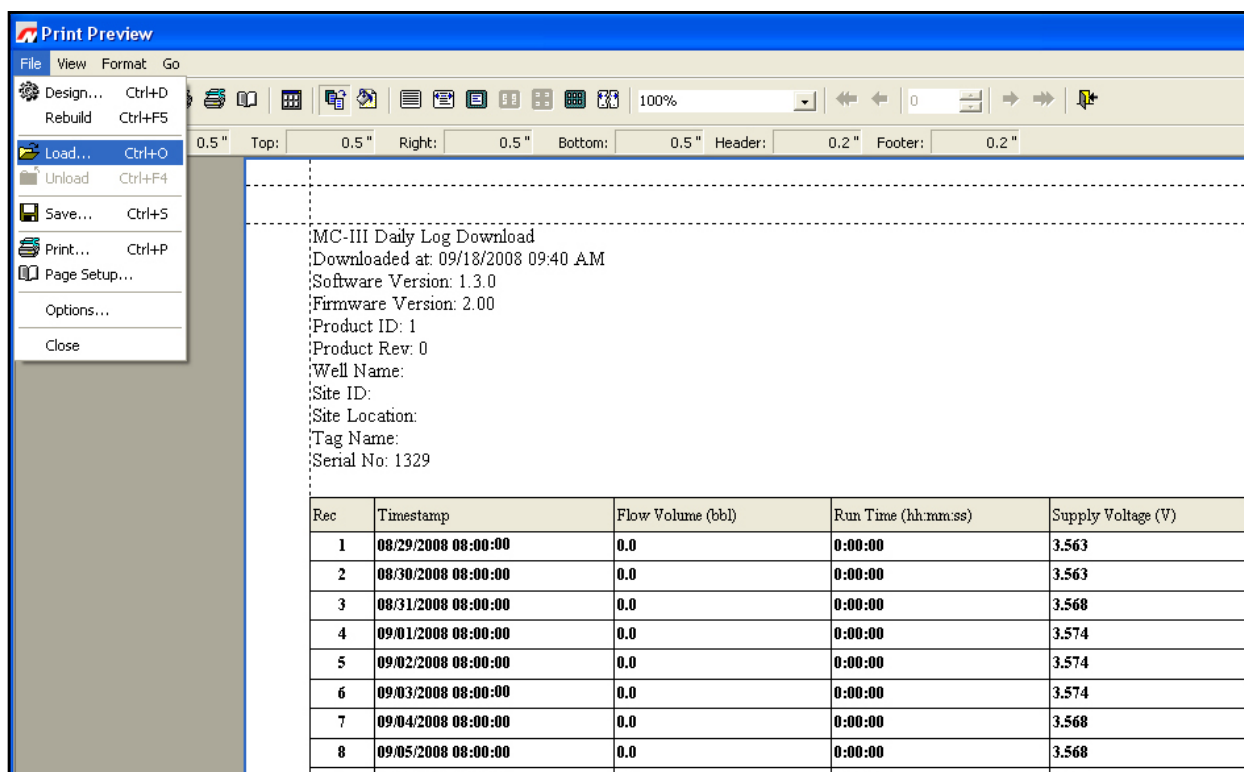
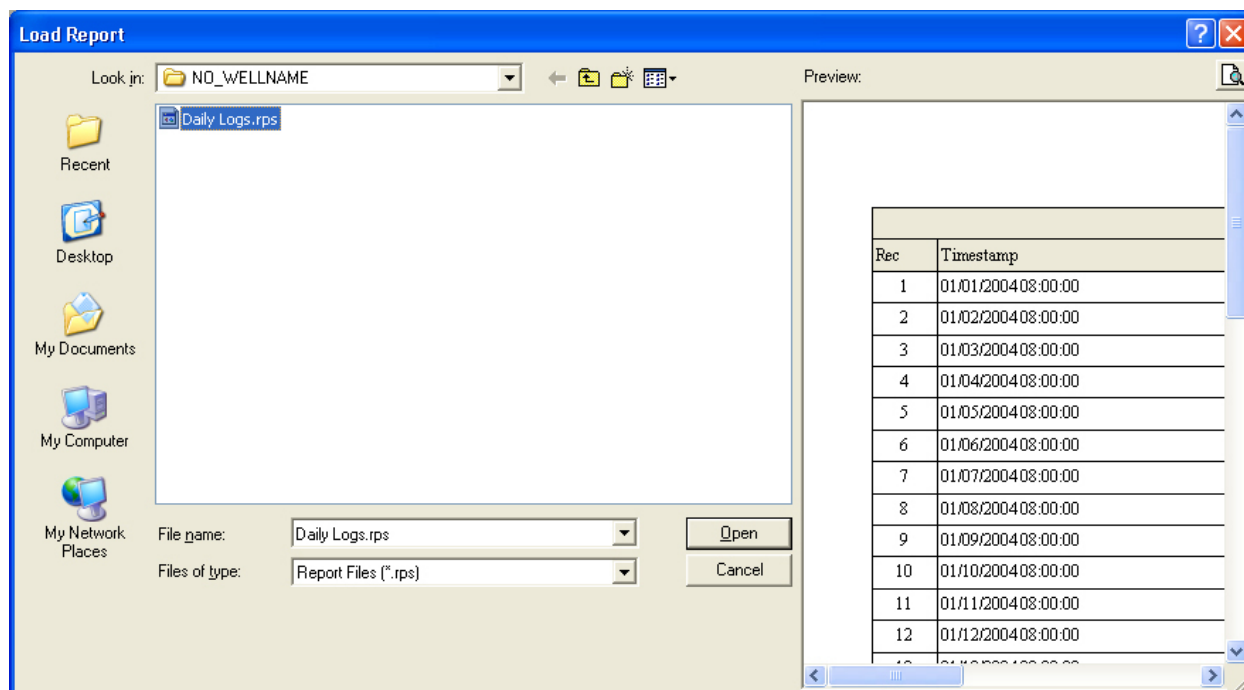

Figure 5.10—Menu for loading a saved report
Figure 5.11—Load Report screen for viewing saved flow log reports
2. Select File>Load from the task bar at the top of the page (*Figure 5.10*, page 78). A Load Report window will open (*Figure 5.11*, page 78).